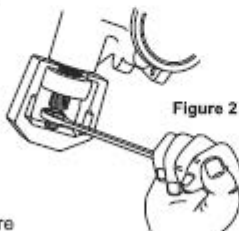

Figure 2
7. Loosen Pitman arm from steering sector by tightening puller nut with a 15/16" wrench. If necessary, tap on Pitman arm with hammer to jar it loose. See Figure 2.